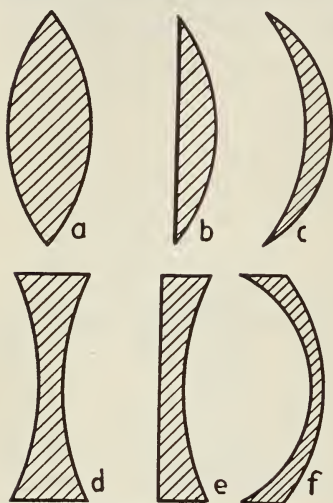

Fig. 329. Concave and convex lenses drawn to show differences in form.
1. Convex lenses are thicker in the middle than at the edges and are made in three shapes as illustrated in Figure 329 *a, b, c*.
2. Concave lenses are thinner in the middle than at the edges and are also made in three shapes, as shown in Figure 329 *d, e, f*.